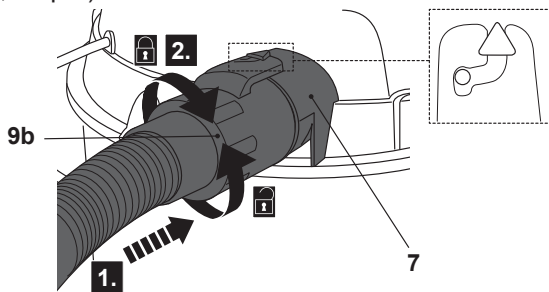

Fig. 13
- > Align the arrow on the hose connector (9b) with the tab on the outer opening of the air outlet (7) and slide the hose connector onto the air outlet (Fig. 13, step 1).
- > Rotate the hose connector (9b) clockwise and ensure the connection is properly secured (Fig. 13, step 2).